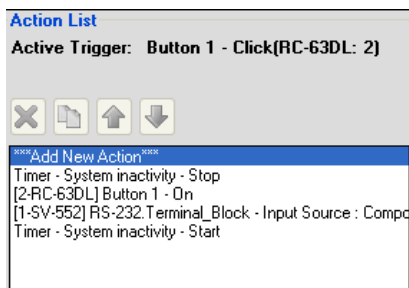

Figure 83: Button 1 Action List with Timer Triggers
9. Figure 83 shows the Button 1 trigger action list: